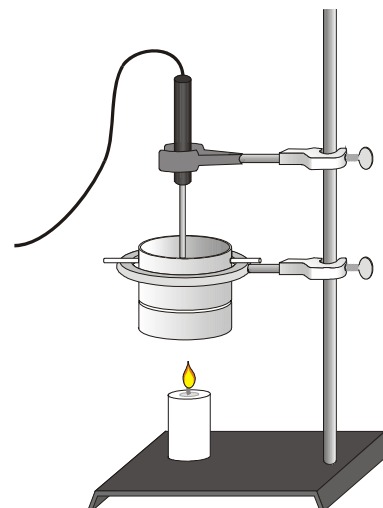

Figure 1
- Set up the apparatus as shown in Figure 1. Use a ring and stirring rod to suspend the can about 5 cm above the wick. Use a utility clamp to suspend the Temperature Probe in the water. The probe should not touch the bottom of the can. **Important:** Stir the water until the Temperature Probe has cooled to the temperature of the water before you do Step 8.